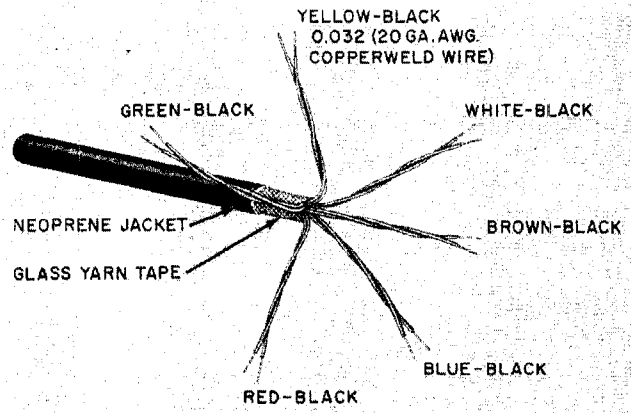

Fig. 4—B Multiple Drop Wire (Early Design)
2.07 The B Multiple Drop Wire supplied during the early production period differs from the present standard in that five pairs were cabled around a center pair. The makeup of this wire is shown in Fig. 4.